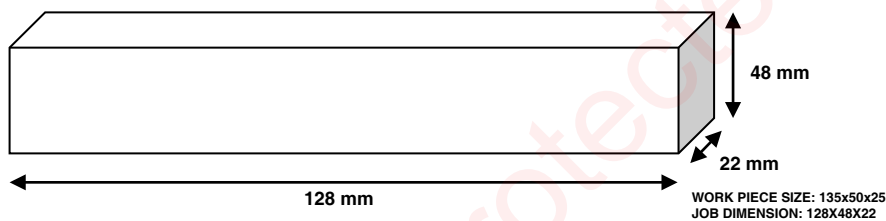

Fig.1.6: Job Dimensions
(For this practical student will select the relevant tools and instruments for a Job.shown in Fig.1.6)
6. Now, do the sawing operation and cut the wooden plank using saw to have the two work pieces of required size shown in Fig.1.6 and plane the cut surface using jackplane